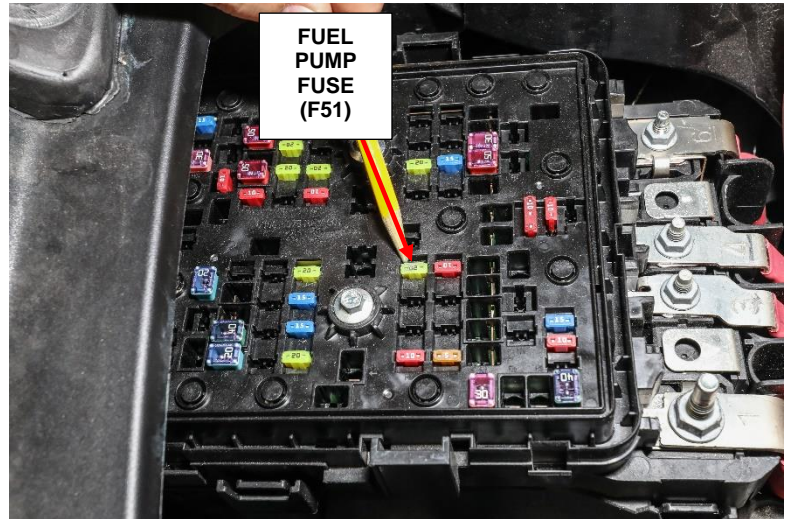

Figure 1 – Fuel Pump Fuse
2. Remove the fuel pump fuse from the PDC (F51) (Figure 1).